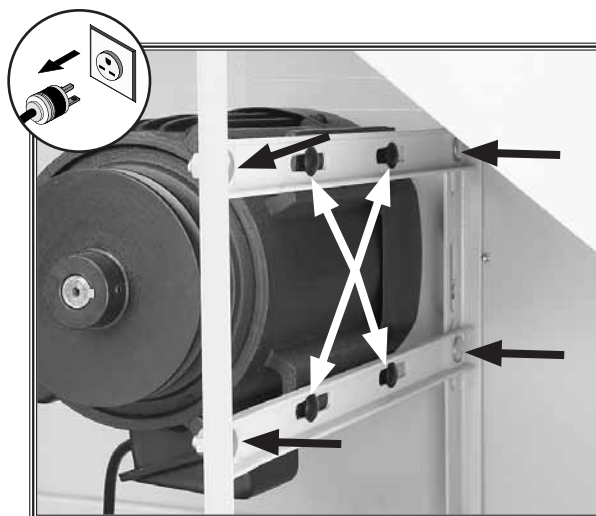

Figure 60. Motor bracket bolts (black arrows) and motor mount bolts (white arrows).
3. Loosen the motor bracket bolts shown in **Figure 60**.